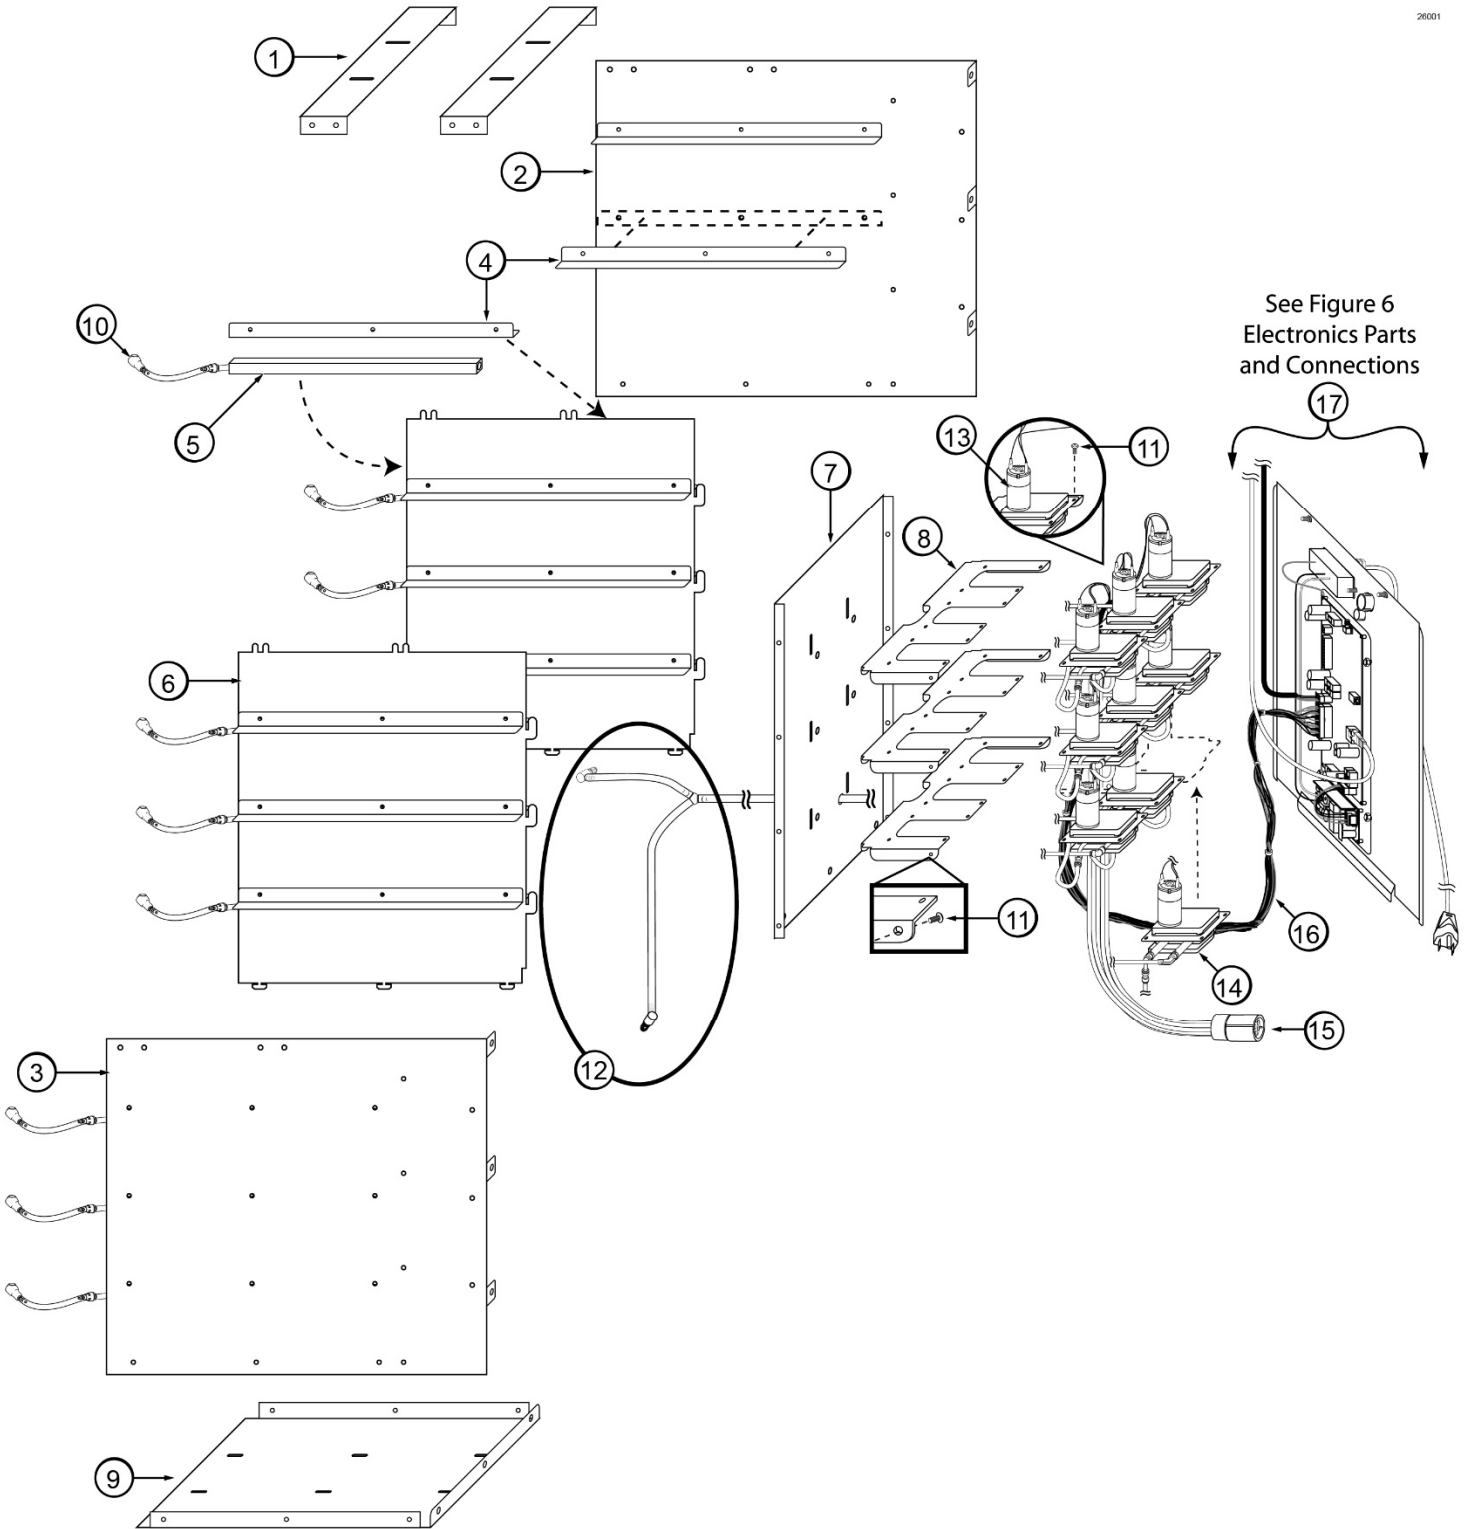

Figure 2
**Integrated Cabinet (See Figure 2)**